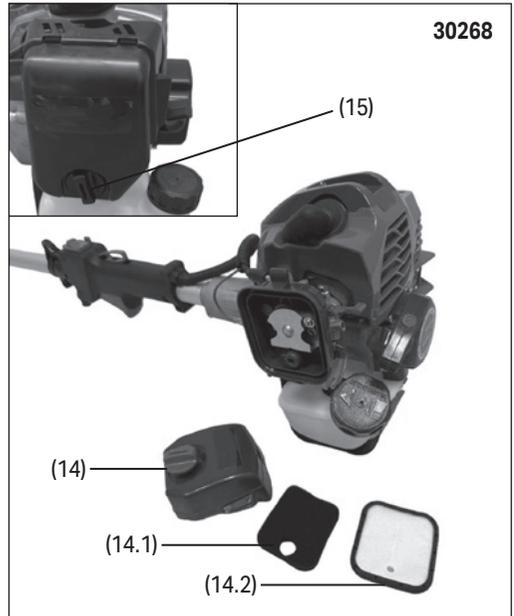
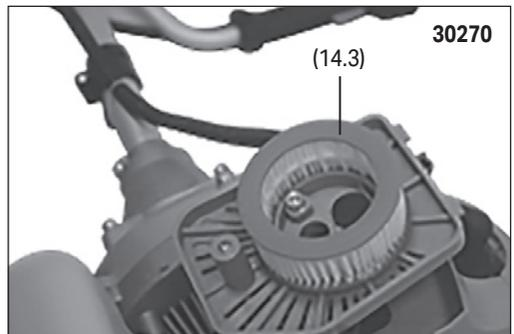

Fig.21
Fig.22
10.2 Cleaning the Air Filter (Fig.21 – Fig.22)